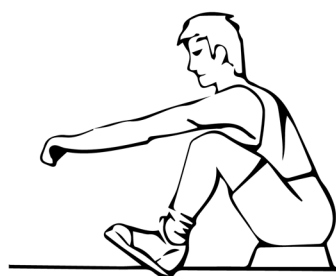

Fig. 1
2. Take the start position, leaning forward with your arms straight and knees bent (Fig 1).